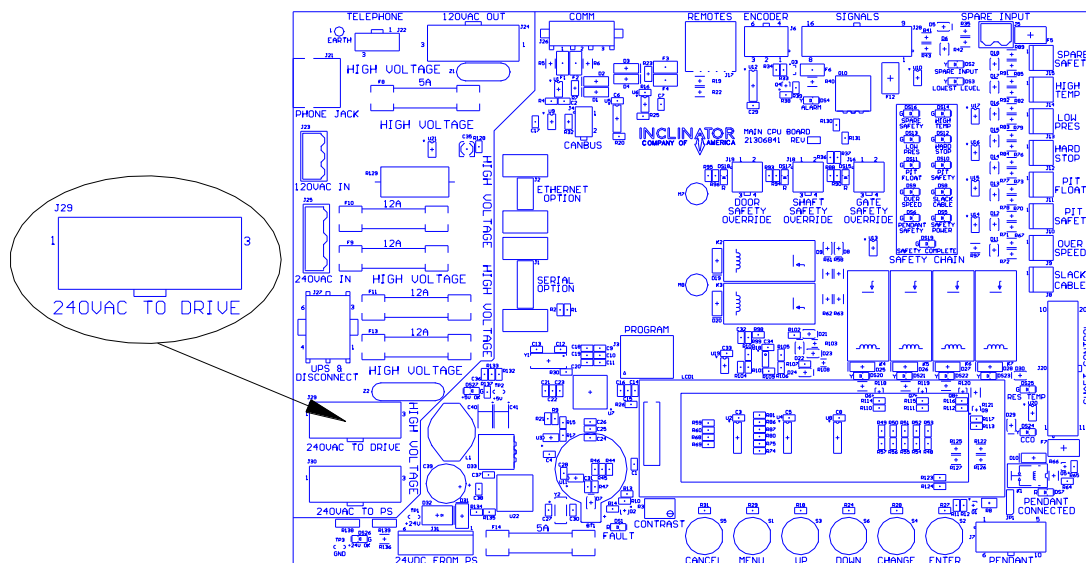

Figure 12 - CPU Board, Motor Control Enclosure Power Cable Connections
6. Connect the Motor Control Enclosure Power Cable connector to J29-"240VAC To Drive" on the CPU board. See Figure 12.